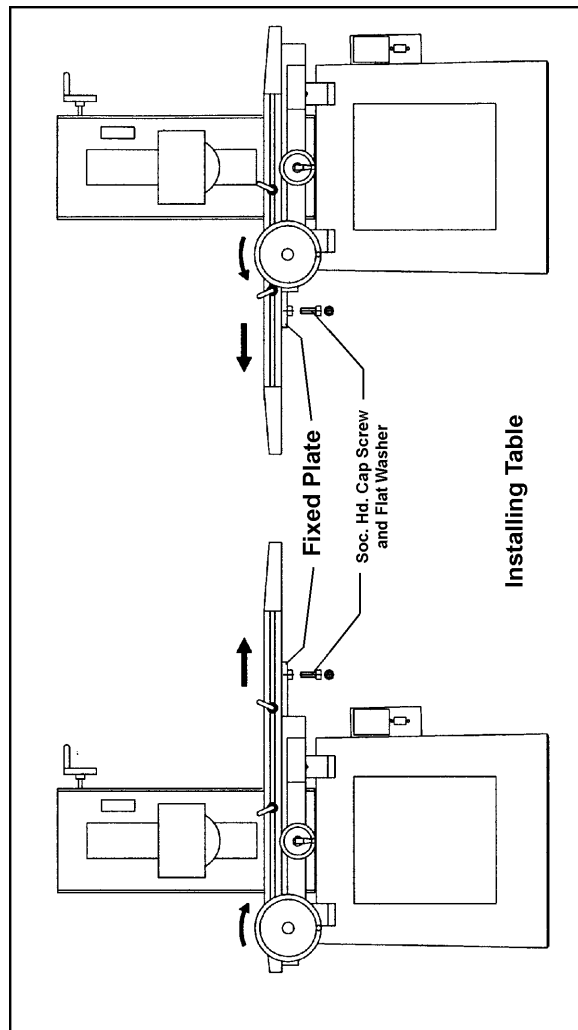

Figure 4
6. Rotate the longitudinal handwheel to move the fixed plate as far to the left as it will go. Attach the table to the fixed plate with the socket head cap screw and washer. See Figure 4. NOTE: Be careful not to pull or pinch the belt.
7. Move the fixed plate as far to the right as it will go. Attach the table to the fixed plate with the socket head cap screw and washer. See Figure 4. NOTE: Be careful not to pull or pinch the belt.